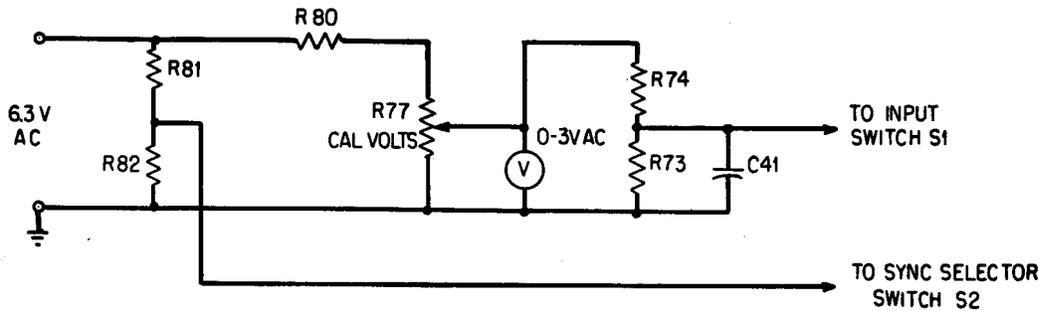
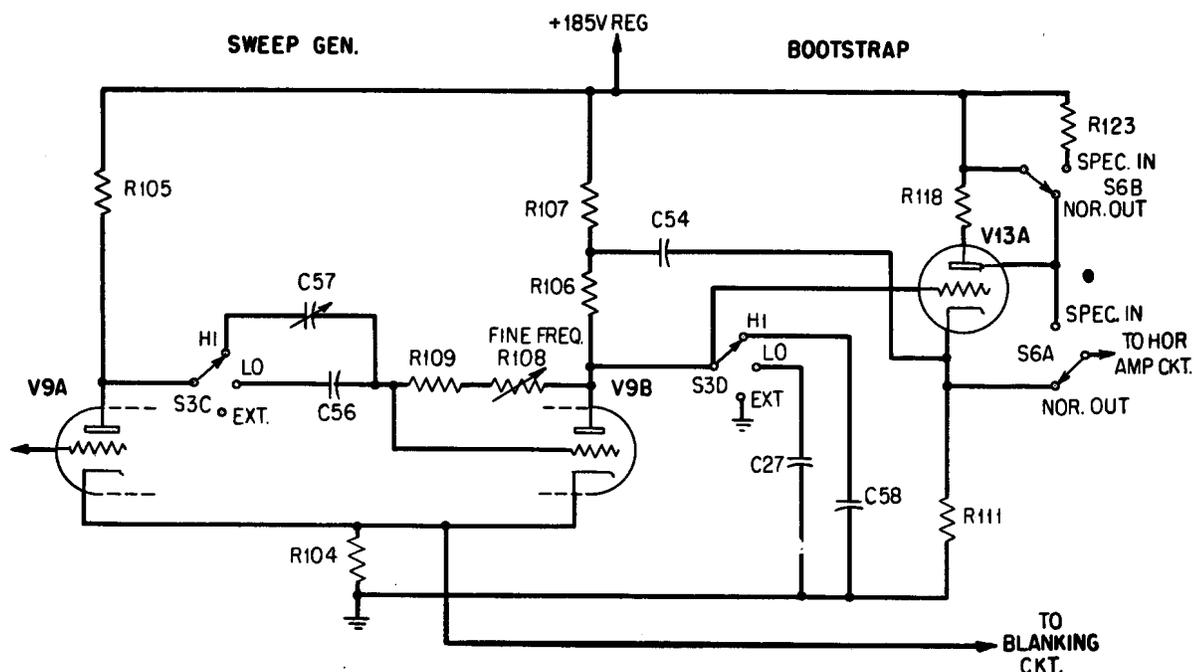

Fig. 5 — KS-15512, List 5 Oscilloscope 60-Cycle Calibrating Circuit
Fig. 10 — KS-15512, List 5 Oscilloscope Sweep Generator
4.04 (B) 60-Cycle Calibrating Circuit: (See Fig. 5) The CAL position of switch S1 connects the 60-cycle calibrating voltage to the input of the vertical amplifier. 60 cycles at 6.3 volts is obtained for this purpose from the heater circuit of electron tube V9 (Fig. 10). The variable source of voltage is obtained from the slider to ground of potentiometer R77 and measured by voltmeter M1. Resistor R80 limits the voltage that can be obtained across R77 and protects the voltmeter. Since the voltmeter reads rms voltages, the resistance potentiometer R74 and R73 (in parallel with the input resistance of the oscilloscope) is required to convert to peak-to-peak values.
4.19 (F) *Sweep Generator:* (See Fig. 10) The sweep generator, electron tube V9A and V9B is a conventional type cathode coupled multivibrator. The time constants of the coupling circuits between the A and B Sections of V9 determine the frequency with a variable resistor R108 providing the required adjustment of frequency range. Variable capacitor C57 is provided so that the sweep generator when locked for a field display (LO) can be adjusted to automatically lock in for a line display when the SWEEP switch S3 is operated to HI.